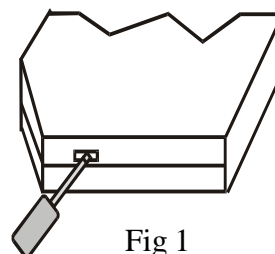

Fig 1
- a. Separate the front control panel by depressing the tab located in the bottom of the control ( fig. 1).